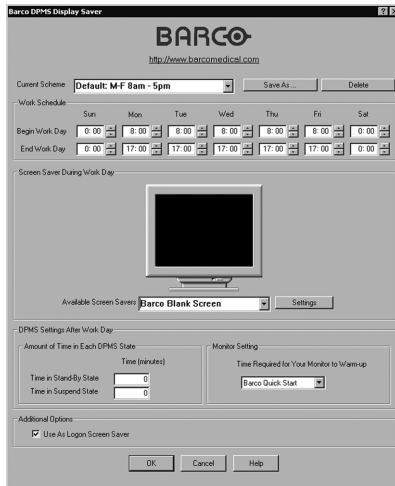

Figure 25: Barco DPMS Settings Control Panel
2. Click on the **“Settings”** button. The **“Barco DPMS Screen Saver Control Panel”** will open (see figure 25 on page 70).